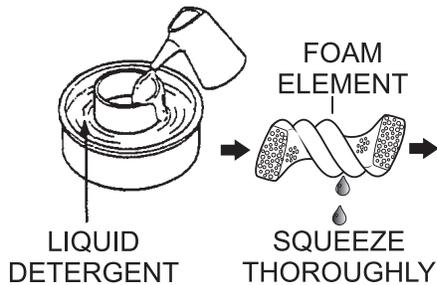

Figure 31. Cleaning the Foam Pre-Cleaner
5. Wash the foam pre-cleaner (Figure 31) in liquid detergent and water and squeeze dry in a clean cloth.